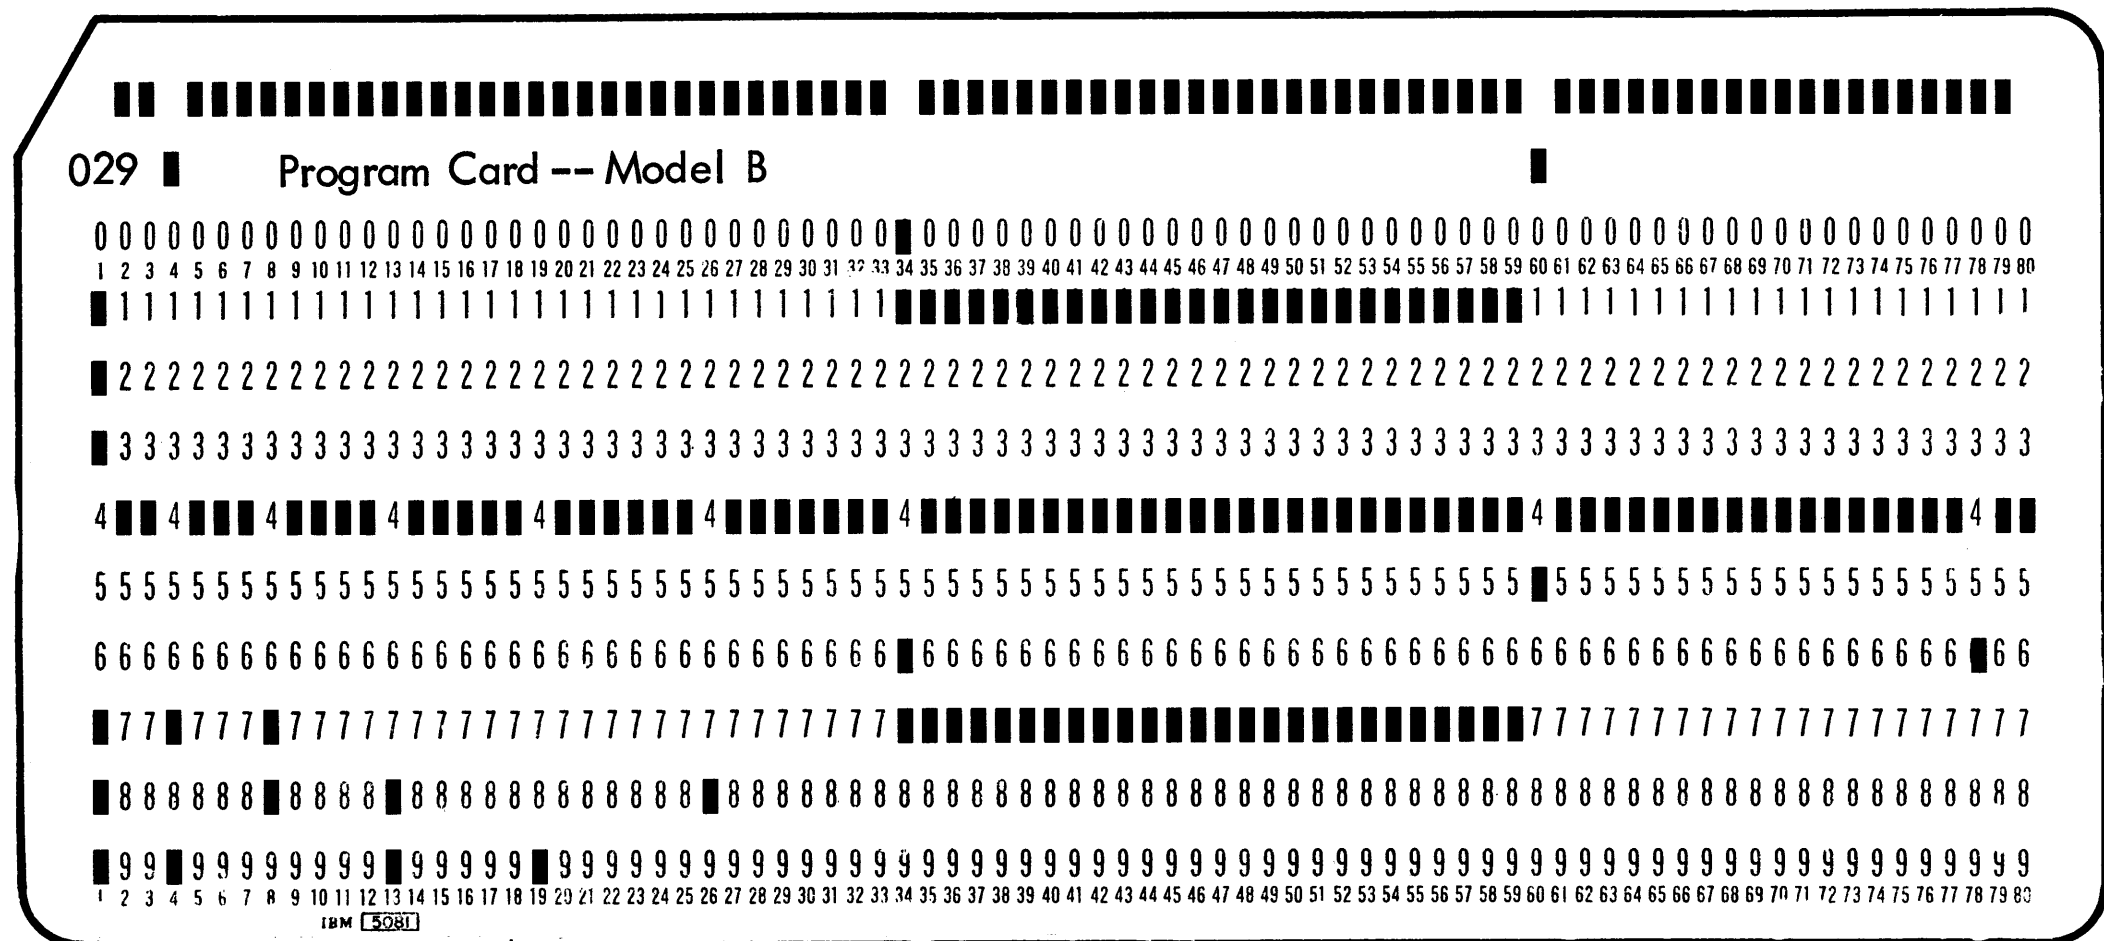

Figure 2-2. Program Card--Model B
2. Install Model B program card (Figure 2-2) on drum, install drum in machine, and lower starwheels.